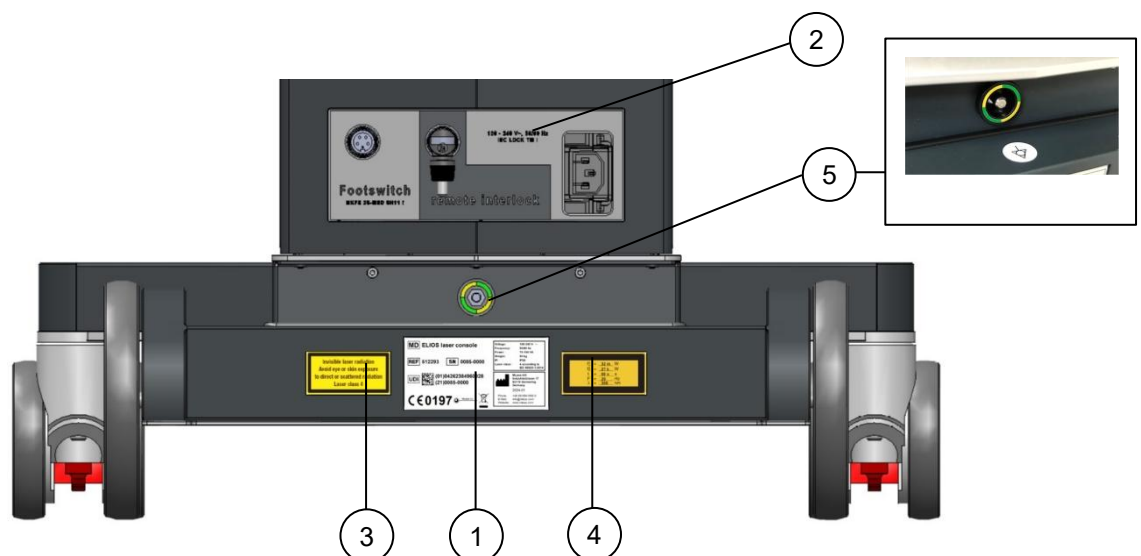

Fig. 2-1: Backside view
The label is located on the backside of the laser (see Fig. 2-1).
3.	The ELIOS laser console generates class 4 laser radiation. Neither eye nor skin should be exposed to this invisible radiation. The label is located on the backside of the laser (see Fig. 2-1).
4.	The laser radiation output information is specified on the pictured label. The label is located on the backside of the laser (see Fig. 2-1).
5.	Connector for electrical potential equalization. The label is located on the backside of the laser (see Fig. 2-1).